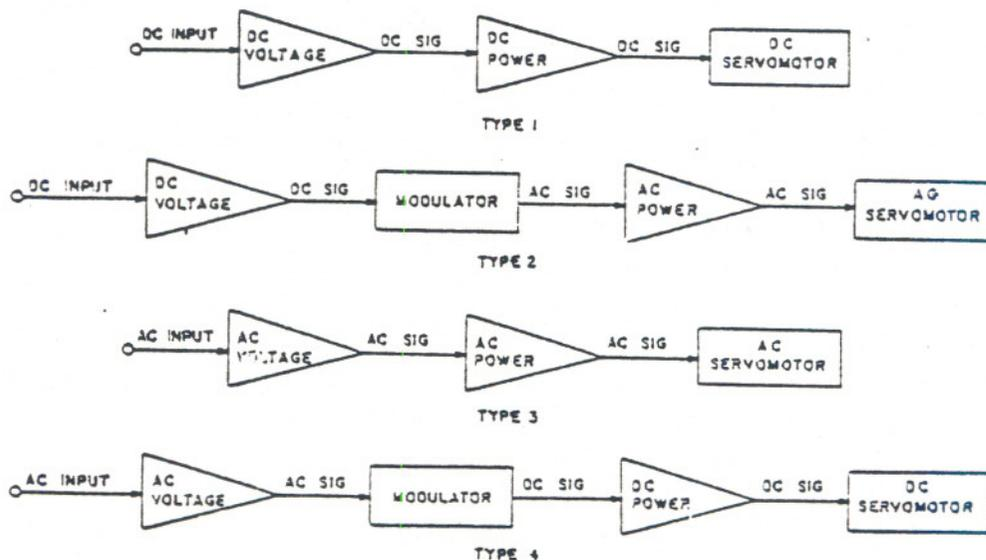

FIG. 1.
2. Draw a block diagram of each of the following servo-systems and describe the operation. (Fig. 1)